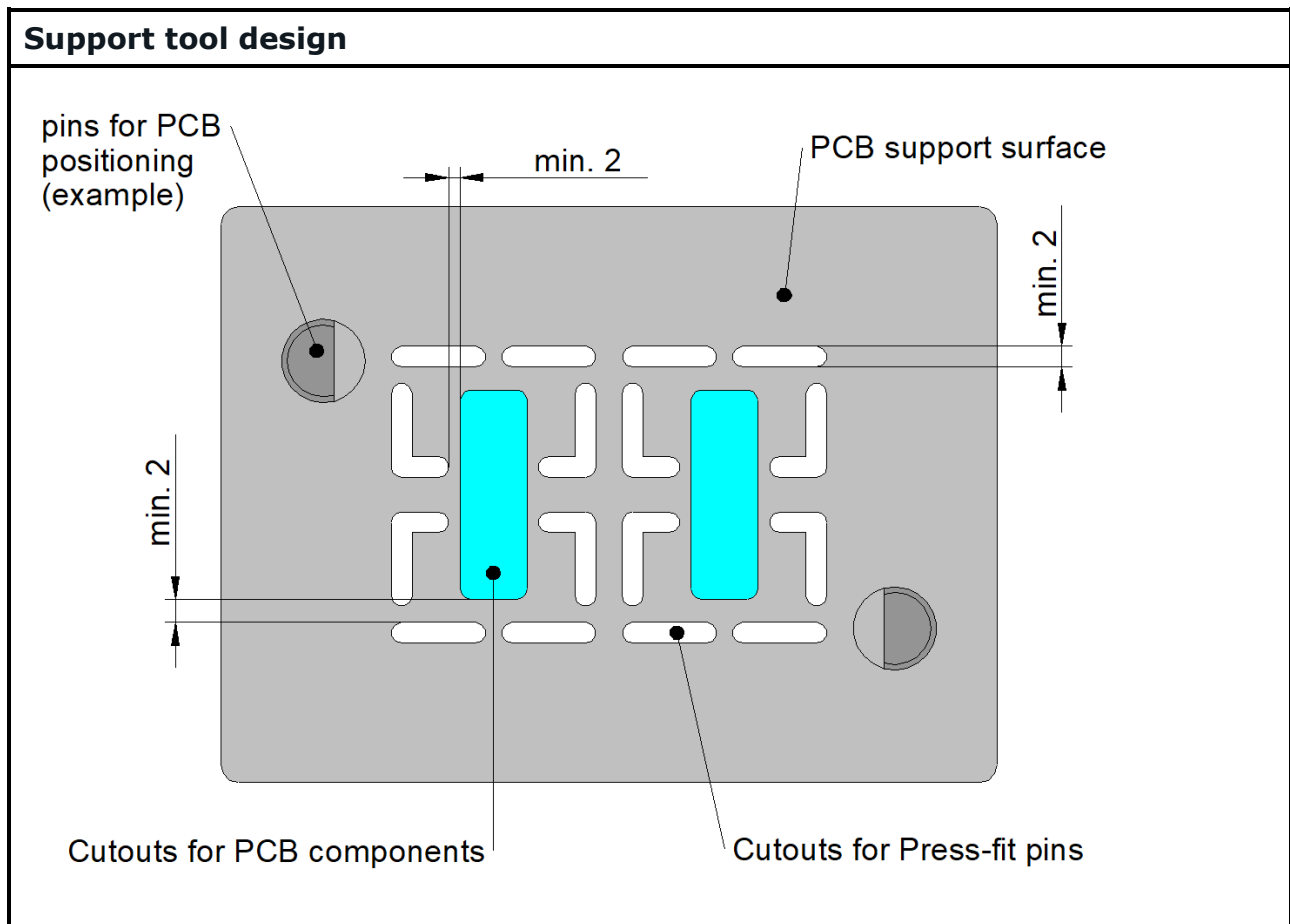

Figure 20: The recommended hole and cutout dimensions for support tool
- Figure 20 shows the recommended hole and cutout dimensions for the Press-fit pins. The recommended diameter of the holes / cutouts for the pins in the support tool is between 2 ... 4 mm (depending on the positioning accuracy). The minimal supporting place around the pin is 2 mm. If the pins are close to each other then it is possible to make a lengthwise cutout for more pins as well (the min. distance of PCB components from the PCB pinhole should also be considered here). It is necessary to position the PCB and the module as well.